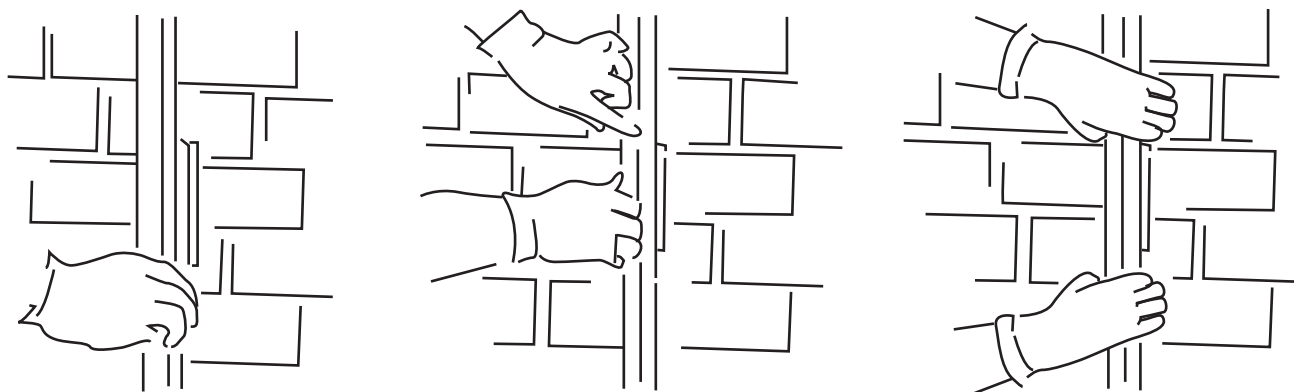

Figure 8.
- Place one edge of the straight run under one edge of the clip. Apply pressure to the flat top of the molding, and push the molding down while pulling the molding's flange out toward the unsecured edge of the clip. (Figure 8)